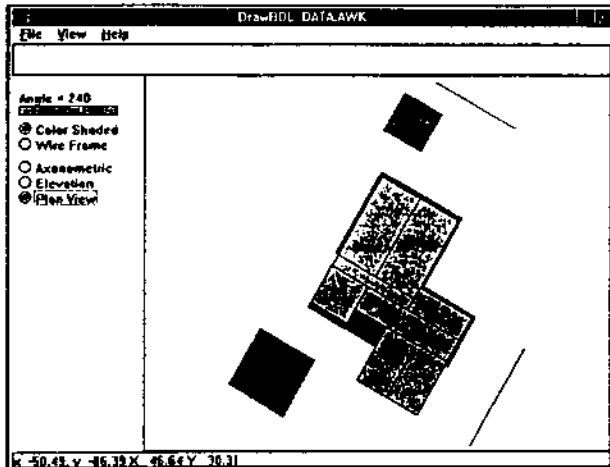

Figure 2
- (1) *Projection*: plan, elevation, or axonometric (Figs. 2, 3, and 4, respectively).
- (3) *View Angle*: selected using a "boom box" switch of 5° increments from 0° to 360°.
- (4) *Selective Drawing*: by space, walls only, roofs only, no building shades, etc. Figs. 2, 3, 4 and 5 show views of a house from several viewing angles. The two square boxes near the house are